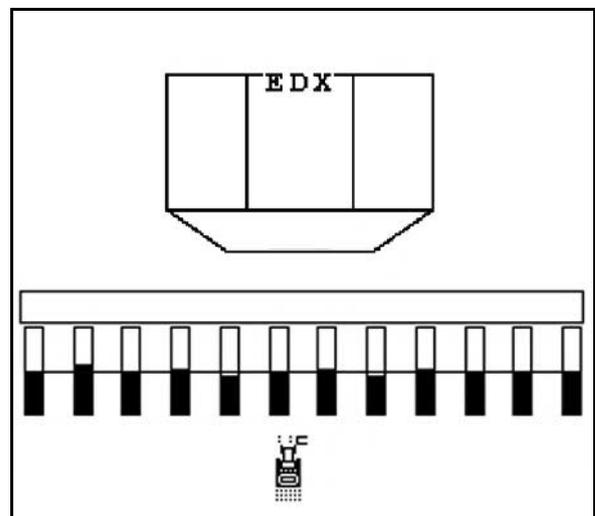

Fig. 55
1.  Preselect obstacle switching (Fig. 55).